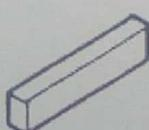

Figure 10
1.5 Figures 10, 11, 12 and 13 show four types of keys used as locking mechanism between shafts and gears/hubs. Give the names to each one. (4 marks)